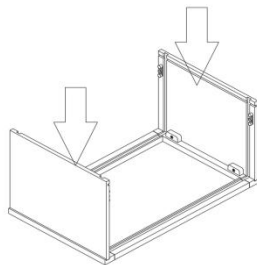
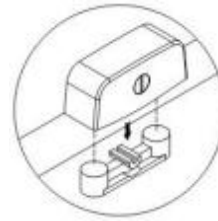

Figure 2
Figure 3
2. **Installing the Side Panels:** Insert the right and left side panels (B) into the groove of face frame (A) and align the cam lock connectors (Figure 2). Lock the cam lock with screwdriver by turning the screw 180° degrees clockwise (Figure 3).